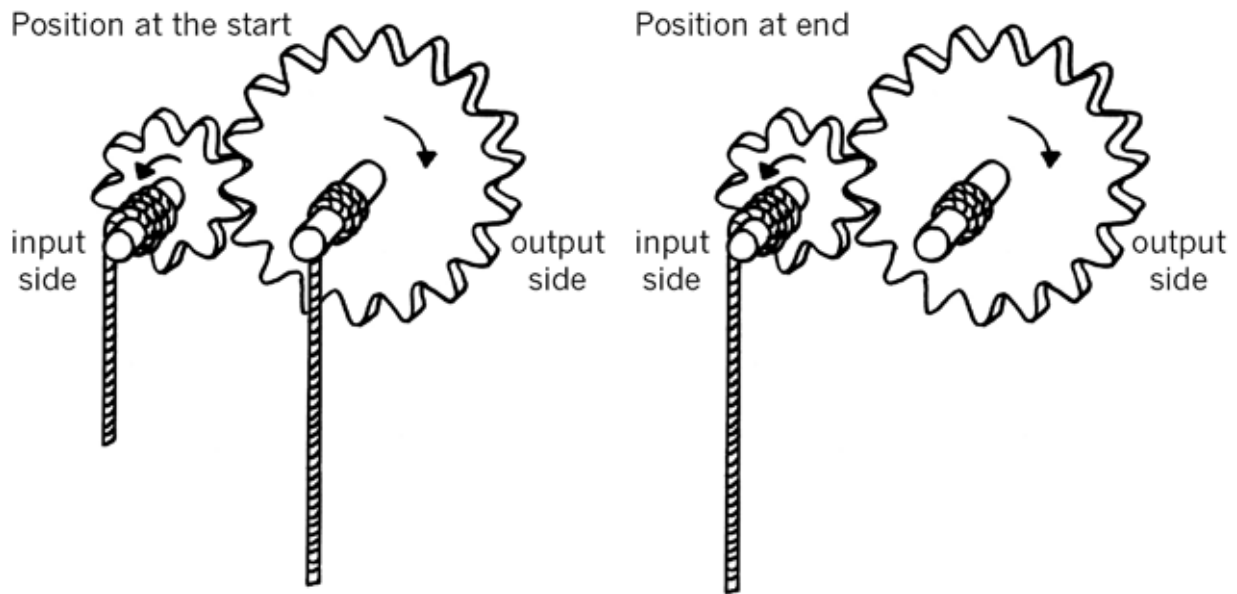

Figure 14
Look at Figure 14 below. The input (driver) gear has 9 teeth and the output (driven) gear has 18 teeth. A rope is wound around each axle.
3. If you pull the input rope down by 2 cm, how far will the output rope be pulled up? Draw the vertical part of the output rope in the “position at the end” part of Figure 14 to show where the output rope will be after you pulled the input rope down by 2 cm.